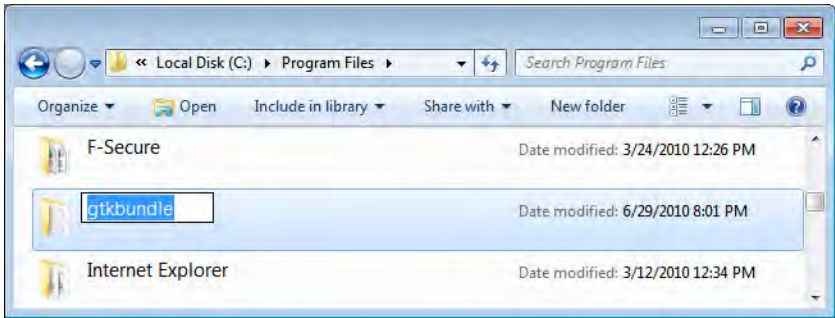

Figure 5-19. Creating a folder for PyGTK
1. Create the following folder: *C:\Program Files\gtkbundle* (Figure 5-19).